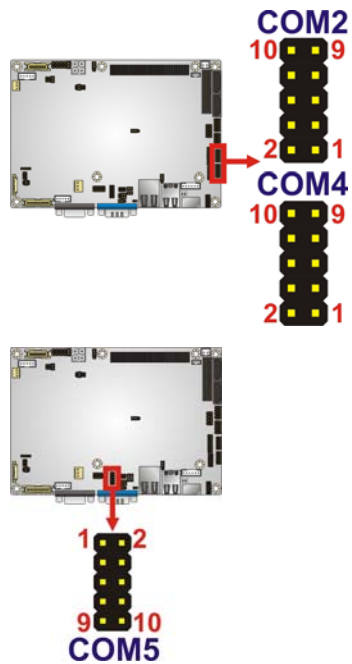

Figure 3-20: COM Connector Pinout Locations
- CN Location:** See **Figure 3-20**